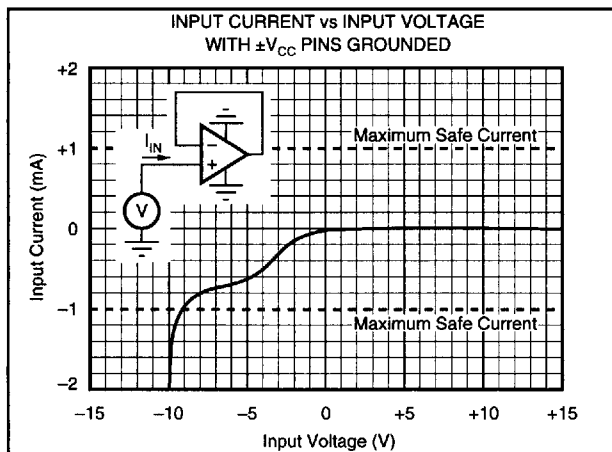

FIGURE 2. Input Current vs Input Voltage with $\pm V_{CC}$ Pins Grounded.
NOTES: (1) Packages must be derated based on $\theta_{JC} = 30^\circ\text{C/W}$ or $\theta_{JA} = 120^\circ\text{C/W}$. (2) For supply voltages less than ±18VDC the absolute maximum input voltage is equal to: $18\text{V} > V_{IN} > -V_{CC} - 8\text{V}$. See Figure 2. (3) Short circuit may be to power supply common only. Rating applies to +25°C ambient. Observe dissipation limit and T_J .
Unlike BIFET amplifiers, the *Difet* OPA404 requires input current limiting resistors only if its input voltage is greater than 8 volts more negative than $-V_{CC}$. A $10k\Omega$ series resistor will limit the input current to a safe value with up to $\pm 15V$ input levels even if both supply voltages are lost. (See Figure 2 and Absolute Maximum Ratings).